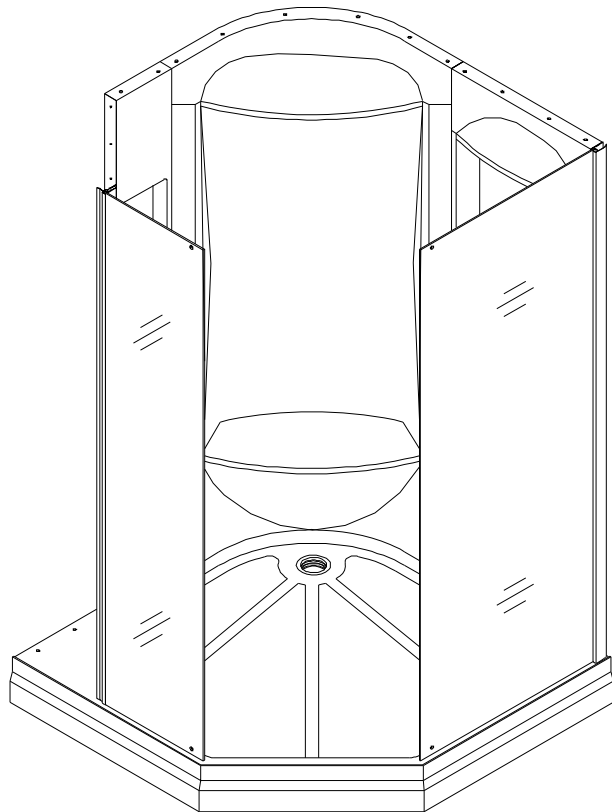
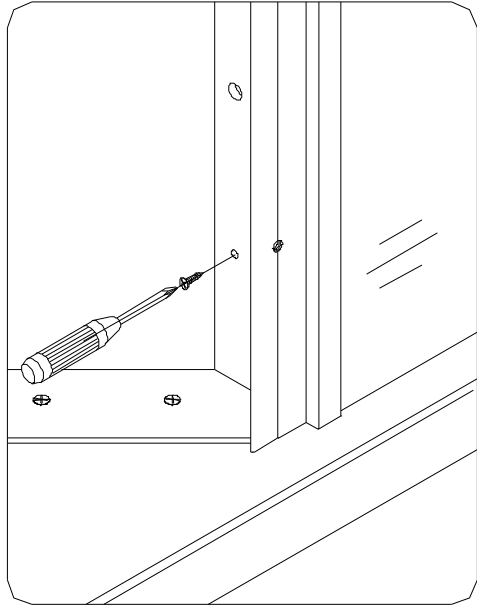

Fig 12
Fig 13
10. Secure the **Narrow stationary glass (09)** to the control panel with **Round head screw ST4.2x12 (16)**. Apply silicone sealant between the control panel and the aluminum profile. See Fig 12 and Fig 13 for details.